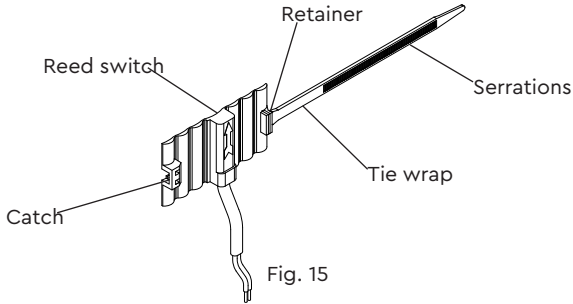

Fig. 15
- Firstly feed the tie wrap (item 2) through the retainer on the reed switch, ensuring that the tie wrap serrations are facing outwards (Fig. 15).